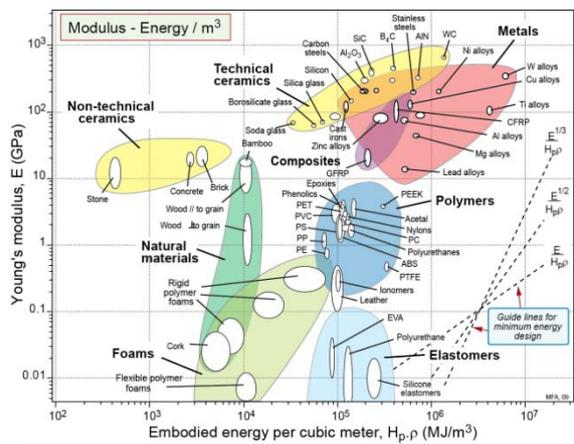

Figure 7: Ashby diagram showing embodied energy versus Young's modulus plotted using CES Selector
Granta have long provided powerful selection and substitution tools through the PC-based CES Selector™ software and the enterprise-wide materials information management system, GRANTA MI™. During design (Tip 1) engineers and designers can search and browse materials data, including economic and environmental properties, and then combine and use that data in rational materials selection (Tip 4) through tools such as Ashby diagrams (Figure 7). Such tools ascertain which materials meet the constraints of your application, rank materials against design objectives, and investigate tradeoffs (18). If these tools suggest new material and process options, the Eco Audit Tool makes it easy to test the environmental impact of those changes.